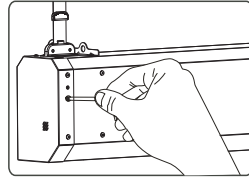

Figure 29
b.Lower limitation adjusting. Take off the knob from the hole and use the provided allen key to adjust (figure 29). A clockwise adjustment will extend the screen (The distance between the screen and installation position will increase) and a counter-clockwise adjustment will retract the screen (. The distance between the screen and installation position will decrease).